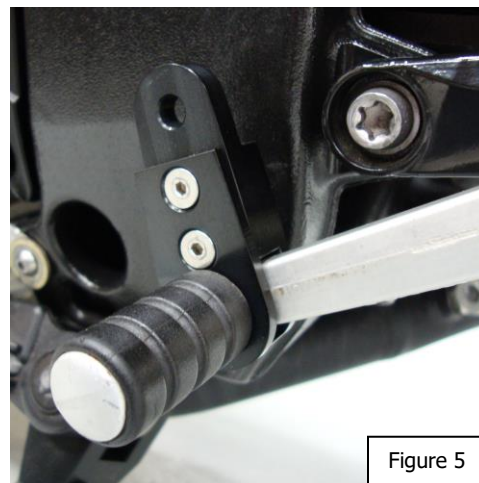

Figure 5
Place the lever bracket over the end of the shift lever. Slide the lock plate behind the rubber cover, secure the lock plate with the (2) flat head screws using a light removable thread locker. See figure 5.